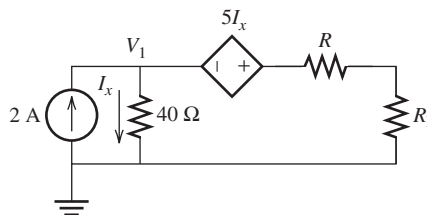

FIGURE P3.74 Circuit for Problem 3.74.
- 3.74** (A)* Find the value of R where R_L equals 50 Ω and draws the maximum power in Figure P3.74.